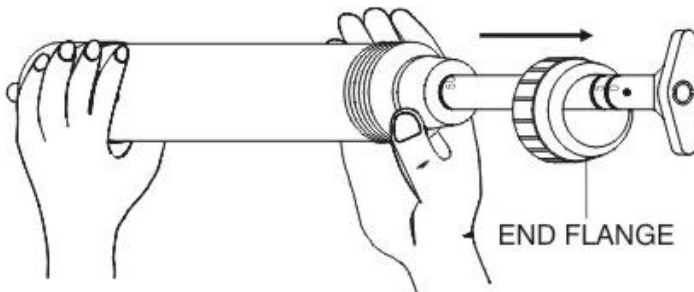

Figure 8. Removing the Piston.
- Unscrew the end flange and pull out the piston as in Figure 8.